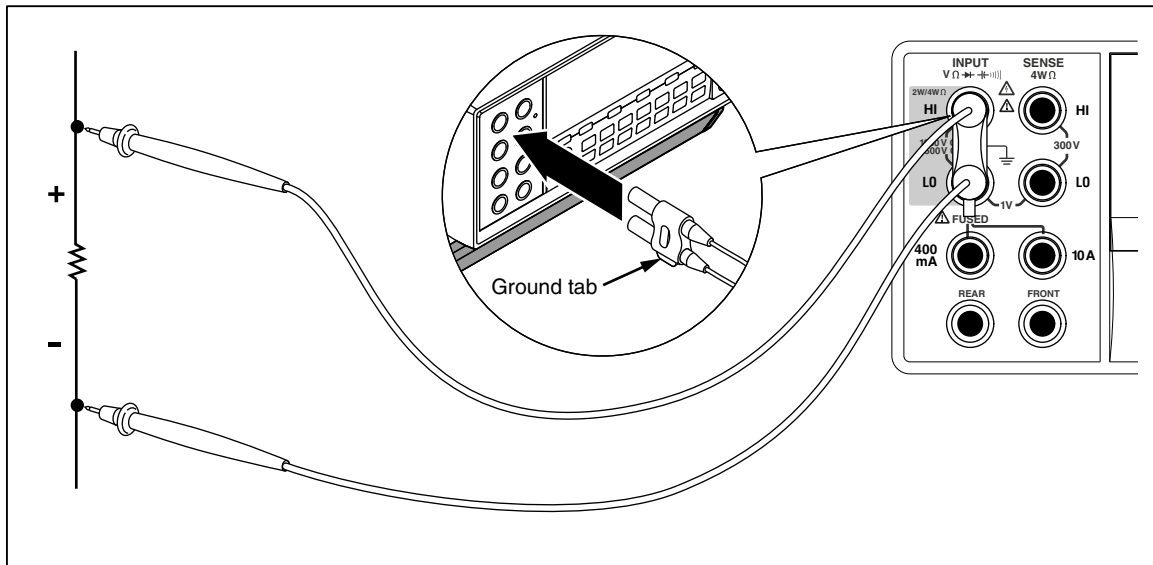

Figure 4-3. Input Connections for 4-wire Ohms Using 2x4 Wire Leads
1. Connect the test leads to the Meter’s input connectors as show in Figure 4-3.